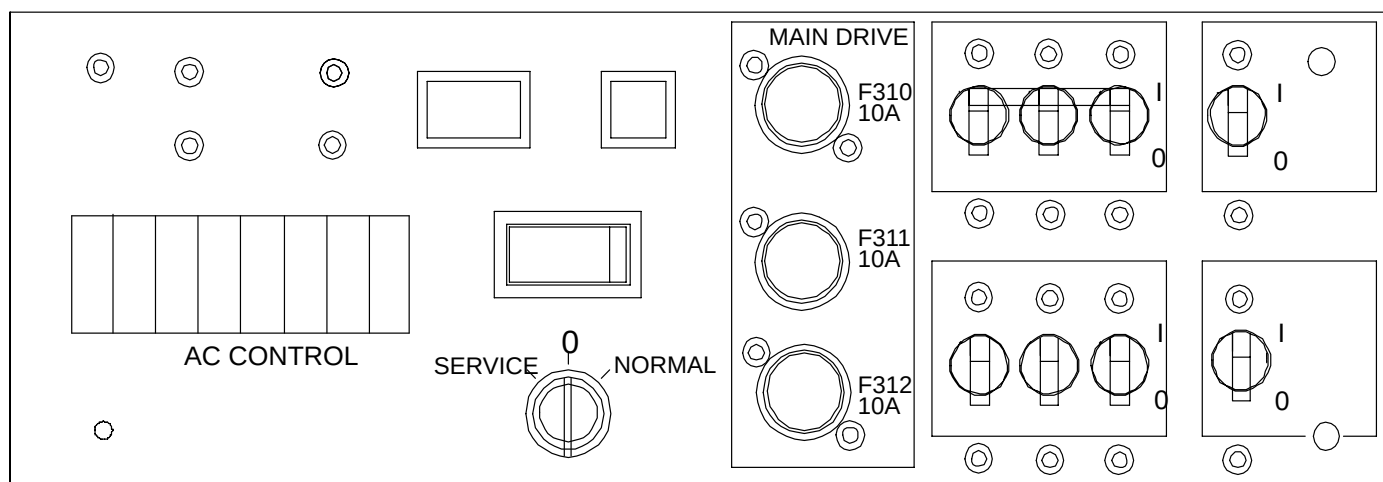

FIGURE 102 AC CONTROL CHASSIS KEY SWITCH
2. Disable the Console by positioning the key switch on the AC control chassis to the SERVICE position. Refer to Figure 102.